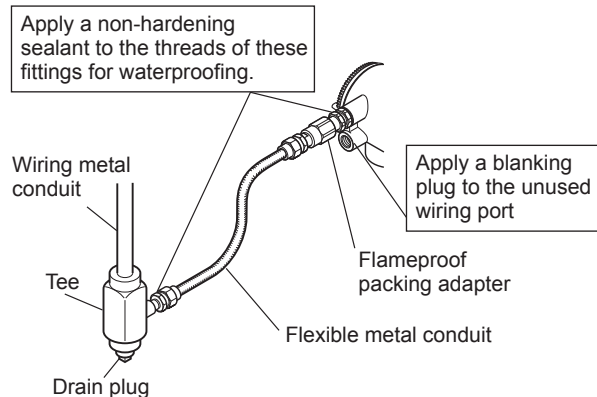
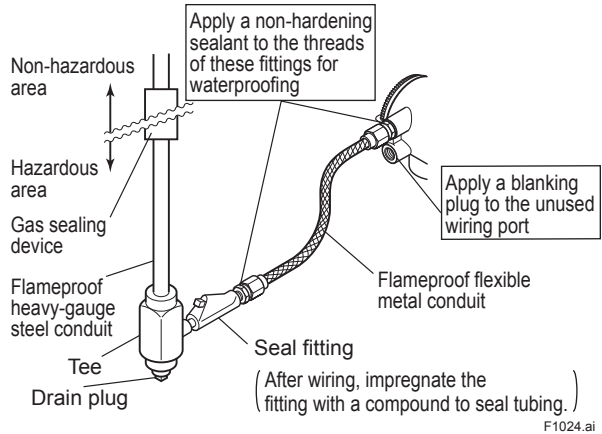

Figure 10.5.2 Typical Wiring Using Flexible Metal Conduit
Figure 10.5.4 Typical Wiring Using Flameproof Metal Conduit
For the external wiring of flameproof types, use a flameproof packing adapter approved by Yokogawa (refer to Figure 10.5.2) or cable wiring using a flameproof metal conduit (refer to Figure 10.5.4 and "INSTALLATION AND OPERATING PRECAUTIONS FOR TIIS FLAMEPROOF EQUIPMENT" at the end of this manual).
- Every wiring port must apply the same wiring as Figure 10.5.4.